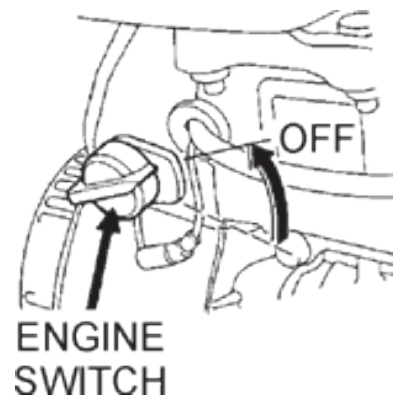

FIGURE 12
10.2 After the engine cools, turn the engine start/stop switch to the "OFF" position (Figure 12).